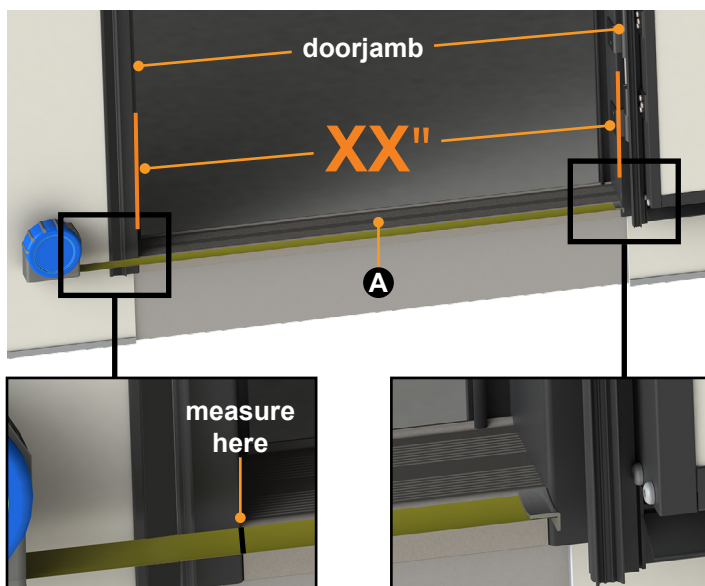

Fig.2
To verify the proper size of the Screen Assist required, just above the threshold (Fig.2A), at the front of the entry door opening (NOT the screen door), measure from doorjamb to doorjamb (Fig.2). Round up approximately  $\frac{5}{8}$ " to determine the rough opening (RO) door size. The Screen Assist will only fit doors with rough openings between 26 and 30 inches.